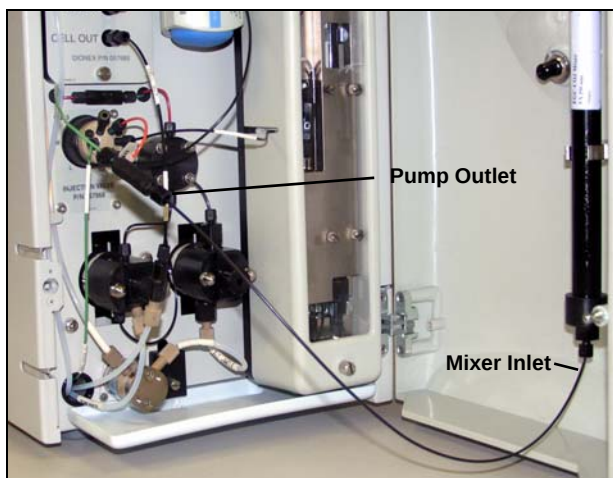

Figure B-71. Pump Outlet Connected to Mixer Inlet for Mixer Hydration
3. Connect the pump outlet to the mixer inlet (see Figure B-71).